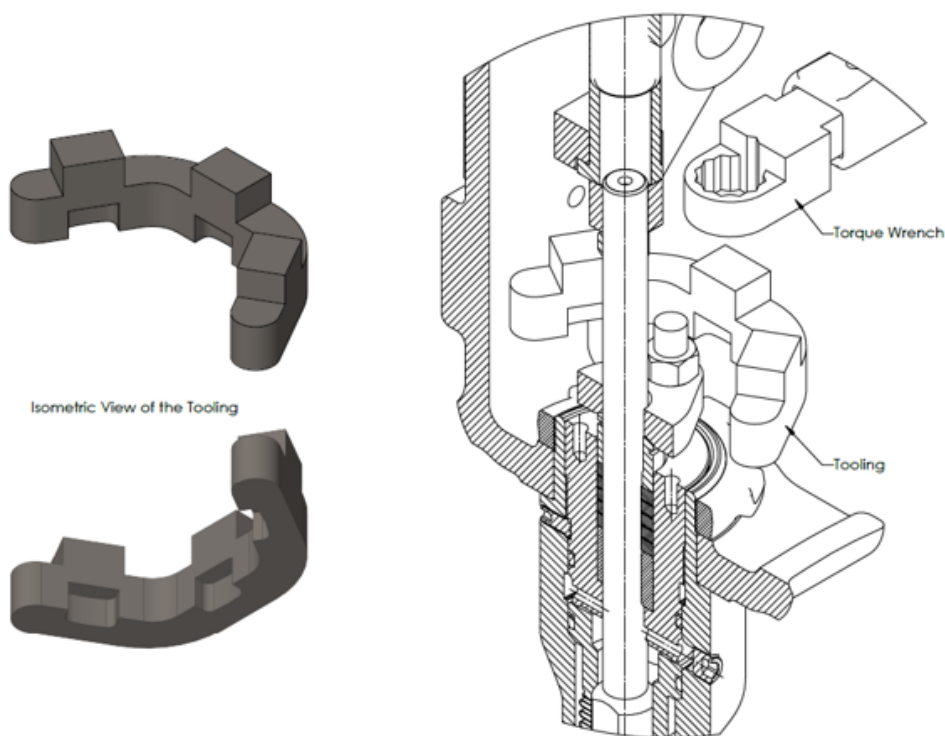

Figure 6 - Drive Nut Tightening Tools
Note: Drive nut should be unscrewed by using the tools shown on the Figure 6 on page 16 coupled to a flat spanner.
- Tighten drive nut by using tools shown in Figure 6. Tightening torque are indicated in the following table: